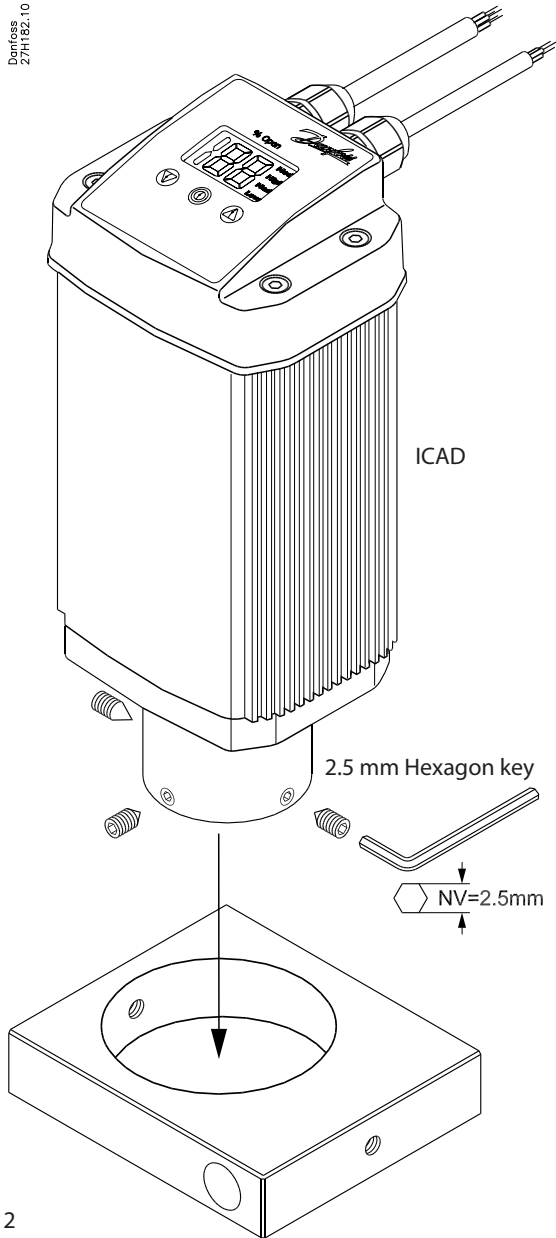

Fig. 2
- Check that the three socket set screws on the ICAD actuator are counter clockwise fully unscrewed and removed with a 2.5 mm Hexagon key (see fig. 2).
- Insert the ICAD into the hole of the heat cartridge holder. (fig. 2)